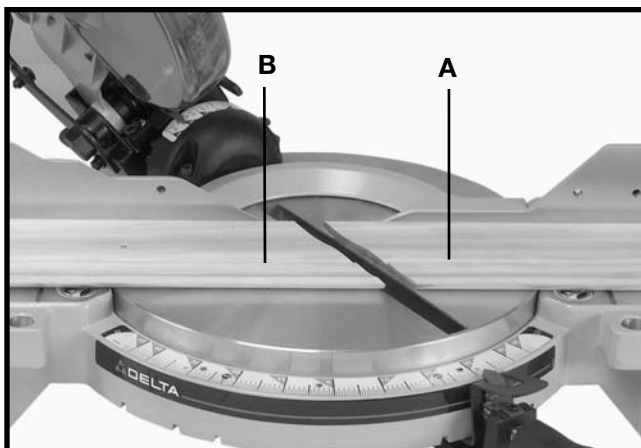

Fig. 41
3. Place the crown molding on the table with the **CEILING EDGE** of the molding against the fence, and make the cut (Fig. 41). **NOTE:** The piece of crown molding used for the outside corner will always be on the right hand side of the blade, (A) Fig. 41. The piece of crown molding used for the inside corner will always be on the left hand side of the blade, (B) Fig. 41.